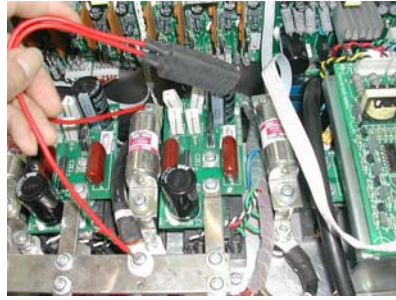

Figure 5-3 Discharge the rectifier capacitor
- D. Discharge the rectifier capacitor with a resistance of $3K\Omega/10W$ until the voltage of capacitor reduce to 0 VDC, as shown in figure 5-3.